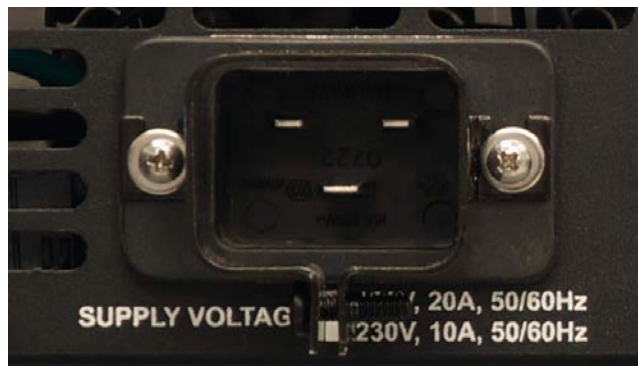

Figure 3.6 – Closeup of AC Mains Outlet
The power cord connects to a standard 20A 3-pin IEC-type male connector on the back panel (see **Figure 3.6**). Make sure the Breaker/Switch on the front panel is switched to the OFF (O) position. Make sure the power cord is inserted and seated fully into the IEC connector by moving it slightly back and forth and up and down while pushing in. The power cord is relatively stiff and should be routed so that there is no excessive force pulling to the sides or up or down that would stress the pins or internal connections.